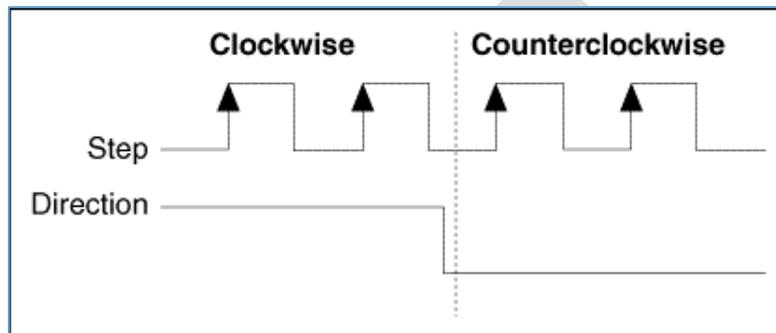

Figure 8. Example of STEP/DIRECTION signal.
The DIRECTION signal indicates to the driver whether it has the move clockwise (CW) or counterclockwise (CCW). The STEP signal indicates when a step is to be made. Figure 8 illustrates this.